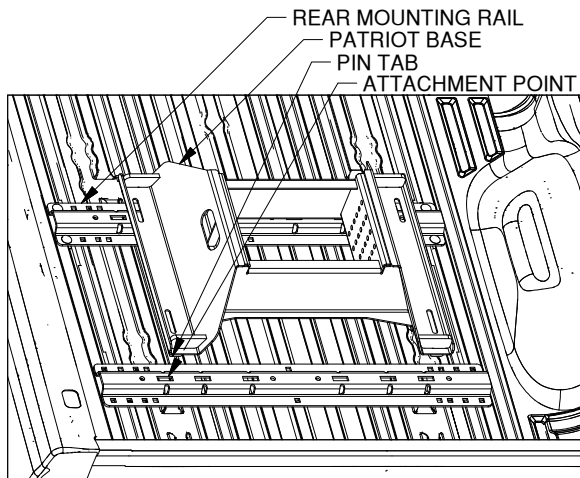

Figure C3: View into truckbed looking towards tailgate.
- 1. Position the forward mounting rail.** For this step the base which will be used in the mounting rails is required. Place a mounting rail into the truck bed in front of the rear mounting rail. Place the base over the rail attachment points and carefully lower it until the pin tabs pass through the attachment points on the rear mounting rail. Attach the forward mounting rail to the forward mounting points on the base. The base should rest flat against the top of the rails. See figure C3. With the base still attached ensure that the forward rail is centered in the truck bed.